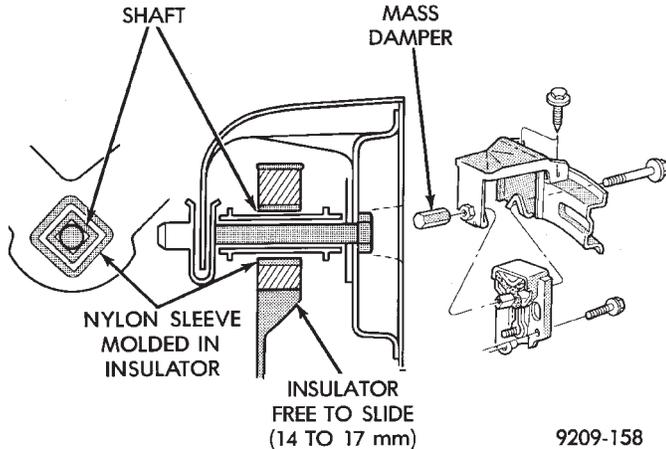

Fig. 4 Left Insulator Movement
Check and reposition right engine mount insulator (left engine mount insulator is floating type and will adjust automatically (Fig. 4). Adjust drive train position, if required, for the following conditions:
(17) Remove ground strap.
(18) To **lower** engine separate right engine bracket from yoke bracket. To **raise** engine remove long bolt through yoke and insulator. IF INSULATOR TO RAIL SCREWS ARE TO BE REMOVED, MARK INSULATOR POSITION ON SIDE RAIL TO INSURE EXACT INSTALLATION (Fig. 4).
(19) Remove transmission case to cylinder block mounting screws.